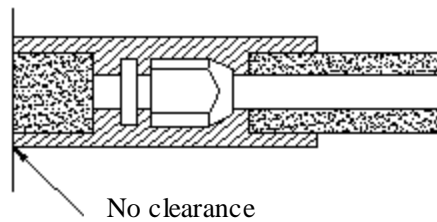

Fig.11
- (2) Y-type manifold has several pipe sections with different pipe size, which facilitates to match with various copper pipes. Use pipe cutter to cut in the middle of the pipe section with different pipe size and deburr as well. See Fig. 11.